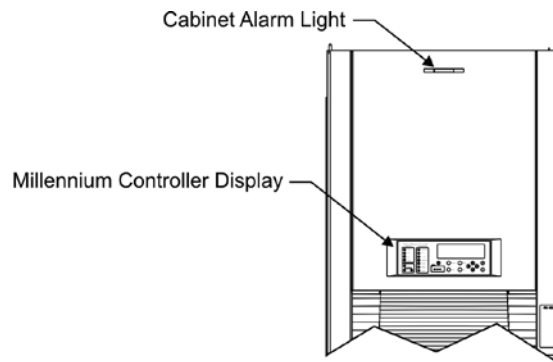

Figure 12-1: Location of cabinet alarm indicators
1. Locate the Galaxy controller. When a trouble condition exists, the red alarm on the top of the cabinet will be illuminated and the display screen on the controller will typically have LED's illuminated. See Figure 12-1.